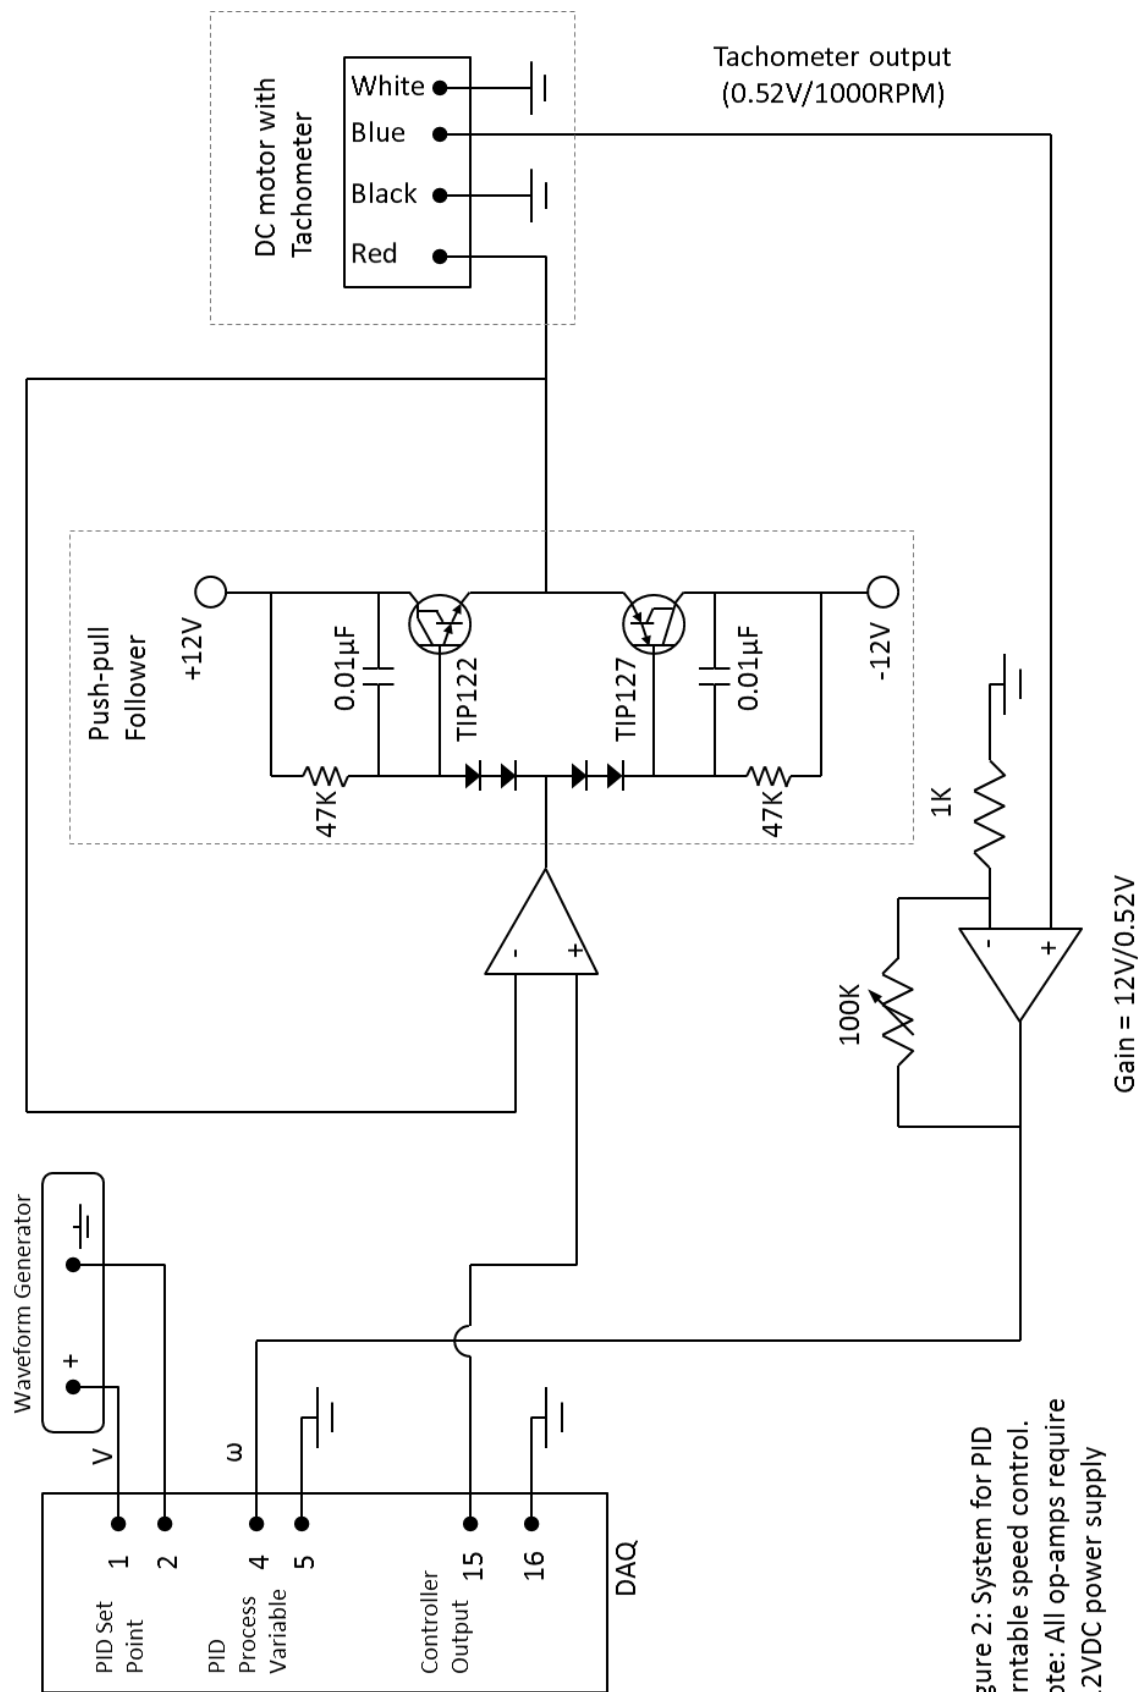

Figure 2: System for PID turntable speed control.
- 1) Build the proposed turntable speed PID control system as shown in Figure 2. Note that if you require any information on any of the components to be used during this experiment (hint: